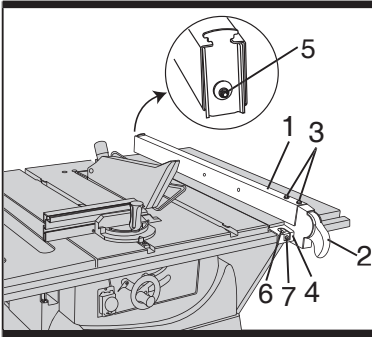

Fig 16
- Lift the handle (2) and turn the adjusting nut (5) clockwise until the rear clamp is snug. Do not turn the adjusting screw more than 1/4 turn at a time.
- Over-tightening the adjusting screw could bend the rear clamping lever, which may cause the fence to come out of alignment (See fig. 16).
- 1) The rip fence indicator (6) points to the measurement scale. The scale shows the distance from the side of the fence closest to the blade.
- 2) Measure the actual distance with a ruler. If there is a difference between the measurement and the indicator, adjust the indicator (6).
- 3) Loosen the screw (7), and slide the indicator to the correct measurement on the scale. Tighten the screw, and remeasure with the ruler (See fig. 16).